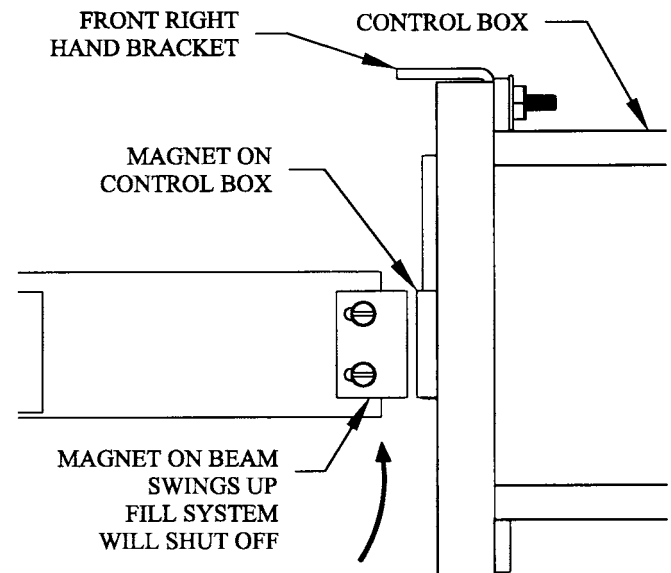

FIG. 4
STEP 4. As the hopper fills the beam will rise. When the magnet on the beam comes into alignment with the magnet on the control box (indicating the desired weight has been reached), the fill system will shut off. See Fig. 4.